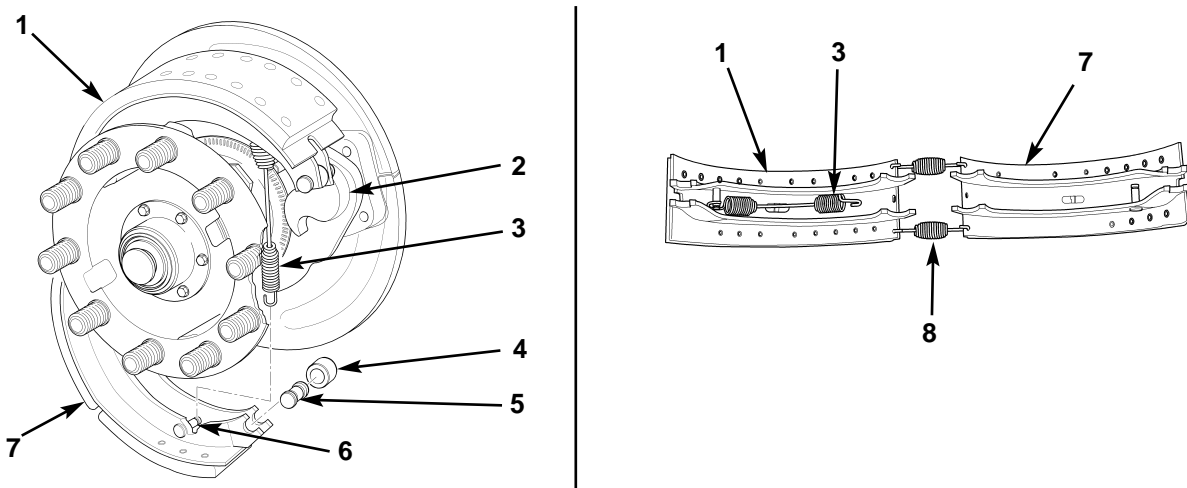

Figure 1. Removing Front Brake Shoes.
1. Using suitable pry bar, lift upper and lower brake shoes (figure 1, items 1 and 7) at camshaft (figure 1, item 2) one at a time, and remove two shoulder pins (figure 1, item 5) and rollers (figure 1, item 4) from between camshaft (figure 1, item 2) and brake shoes (figure 1, items 1 and 7).
2. Disconnect shoe release spring (figure 1, item 3) from pin (figure 1, item 6) on lower brake shoe (figure 1, item 7), and remove upper and lower brake shoes (figure 1, items 1 and 7) and two shoe retaining springs (figure 1, item 8) together as an assembly, as shown in figure 1.